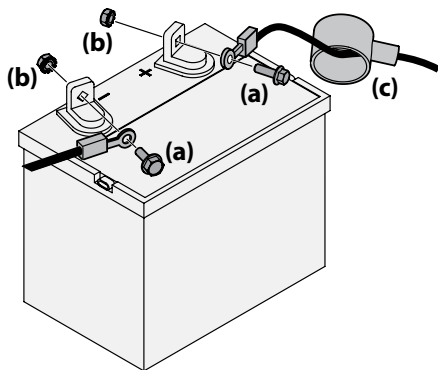

Figure 2-9
1. Remove the plastic cover, if present, from the positive battery terminal and attach the red cable to the positive battery terminal (+) with the bolt (a) and hex nut (b). See Figure 2-9.
2. Remove the plastic cover, if present, from the negative battery terminal and attach the black cable to the negative battery terminal (-) with the bolt (a) and hex nut (b). See Figure 2-9.